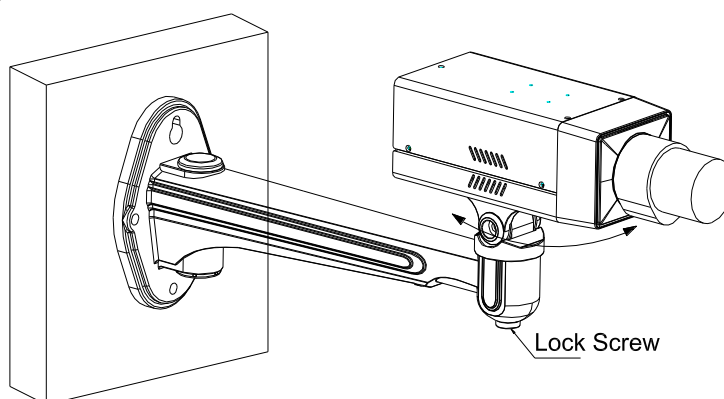
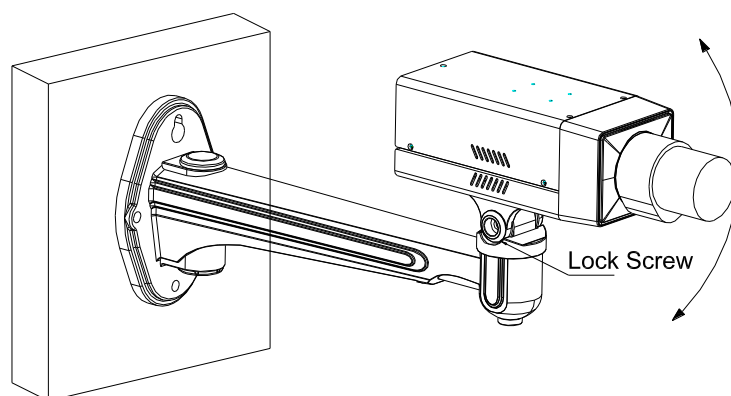

Figure 2-9 Panning
Figure 2-10 Tilting
4. Loosen the panning lock screw, you can adjust the panning angle of the camera up to 360° (Figure 2-9); Loosen the tilting lock screw, you can adjust the tilting angle of the camera up to 90° (Figure 2-10).